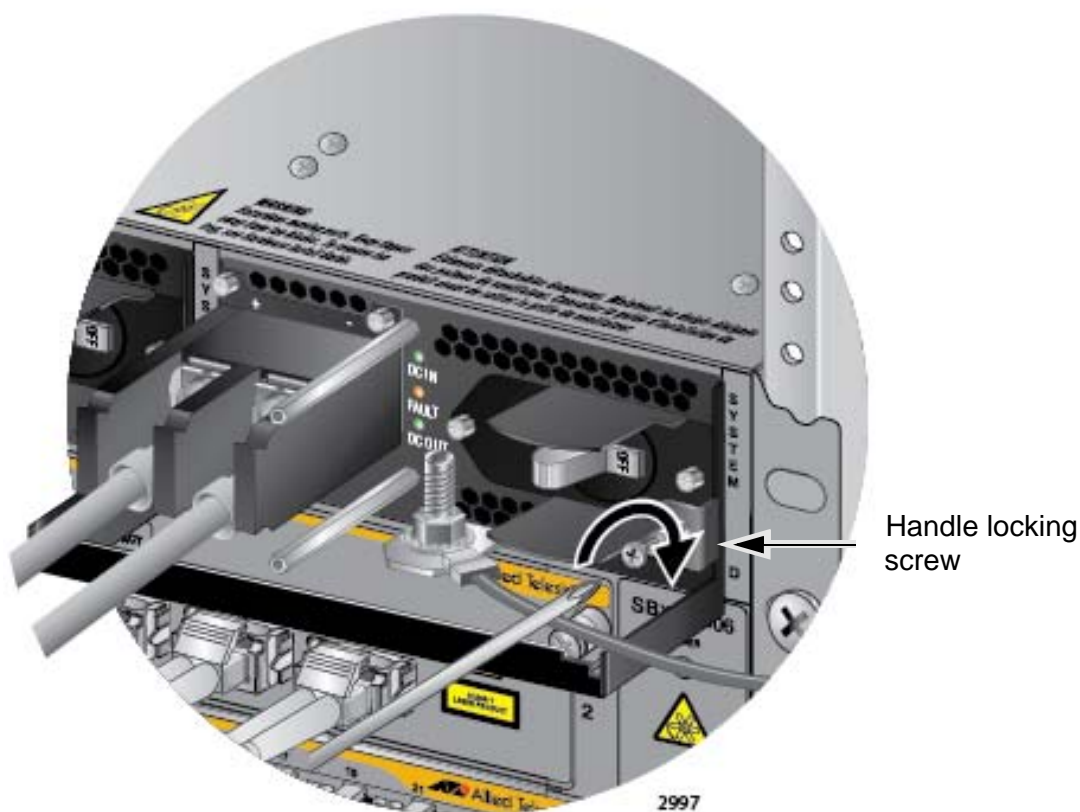

Figure 138. Tightening the Handle Locking Screw
8. With a #2 Phillips-head screwdriver, tighten the handle locking screw to secure the power supply to the chassis. See Figure 138 on page 204.